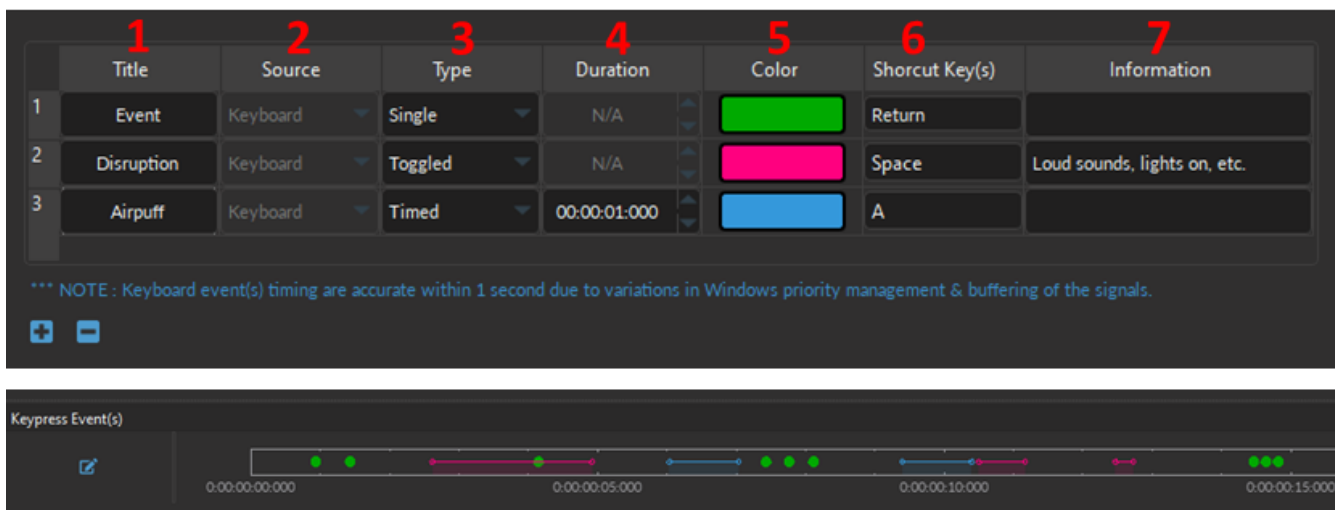

Figure 8.24: Channel(s) configuration window, Keypress Event(s)
The following are the configurable parameters of a **Keypress Event**, per Fig. 8.24:
1. The **Title** (Fig. 8.24, 1) allows you to give a name for the Keypress event.
2. The **Source** (Fig. 8.24, 2) is by default *Keyboard*.
3. Three **Types** of Keypress Event(s) (Fig. 8.24, 3) can be specified with the drop-down list:
4. The **Duration** (Fig. 8.24, 4) is only used for the **Timed** Keypress type to specify the predetermined amount of time a Keypress Event will span. The duration is set in hh:mm:ss:zzz.
5. Select the **Color** (Fig. 8.24, 5) field to open the **Select Color** window. Basic colors are provided, in addition to custom colors can be created and stored.
6. The **Shortcut Key(s)** (Fig. 8.24, 6) can be any keyboard key, including space bar, enter, backspace, any letters, number, and special characters (*, !, ? etc.). To specify the key, click inside the *Shortcut Key(s)* cell, then press the keyboard key of choice. If a key was properly set, it will appear in the *Shortcut Key(s)* cell (as in Fig. 8.24, column 6).
7. The **Information** column (Fig. 8.24, 7) provides space to make notes or write a short description of the Keypress Event.